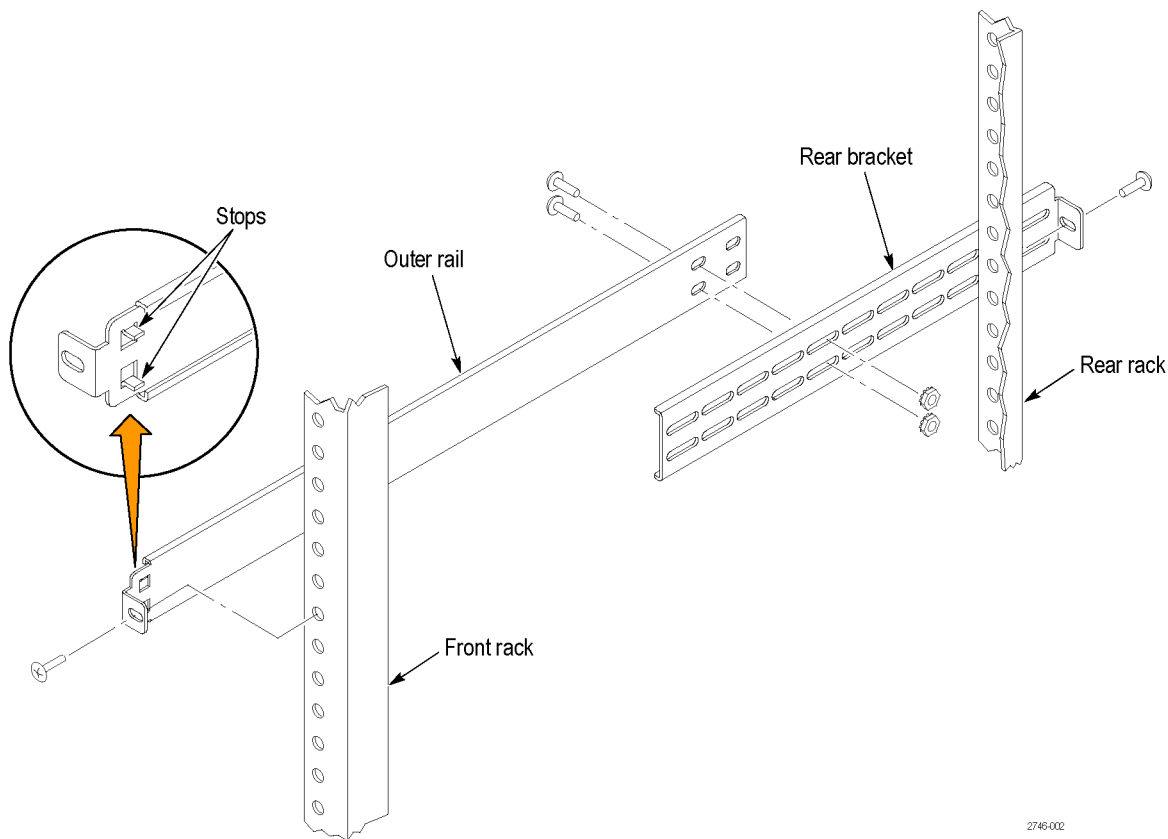

Figure 5: Assembly and mounting of rails
2. Align the rear bracket to the right rail. Notice that the rear bracket has multiple pairs of mount-through holes. When aligning the bracket and rail, be sure to select a pair of holes that mount the rear bracket so that the flange-to-flange distance matches the front rail to rear rail spacing of the rackmount rack just measured in step 2. (See Figure 5.)